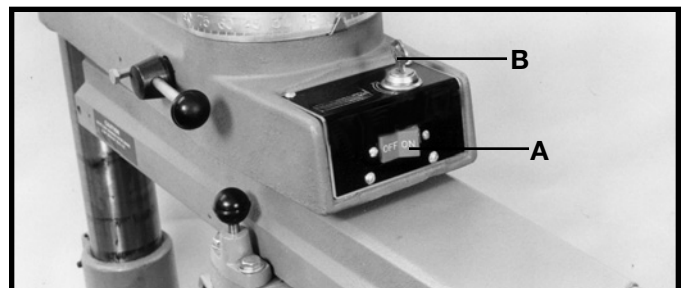

Fig. 35
1. The on/off switch (A) Fig. 35 is located on the front of the saw. To turn the machine "ON", push the switch down to the "ON" position.
2. To turn the machine "OFF", push the switch (A) down to the "OFF" position.
IMPORTANT: When the tool is not in use, the switch should be locked in the "OFF" position to prevent unauthorized use. To lock switch (A) Fig. 35 in "OFF" position, press and hold the switch in the "OFF" position while turning key (B) to the lock position. Remove key.